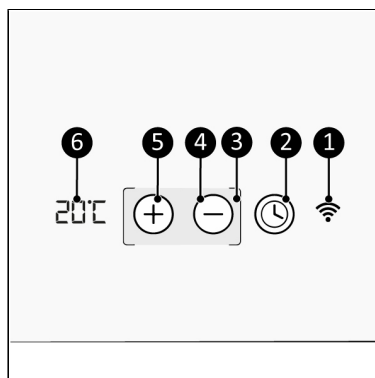

Figure 17.
The LED-screen will extinguish automatically after ± 15 seconds, the square brackets remain visible. Touch the device between the square brackets (Figure 17, pos. 3) to light it up again.